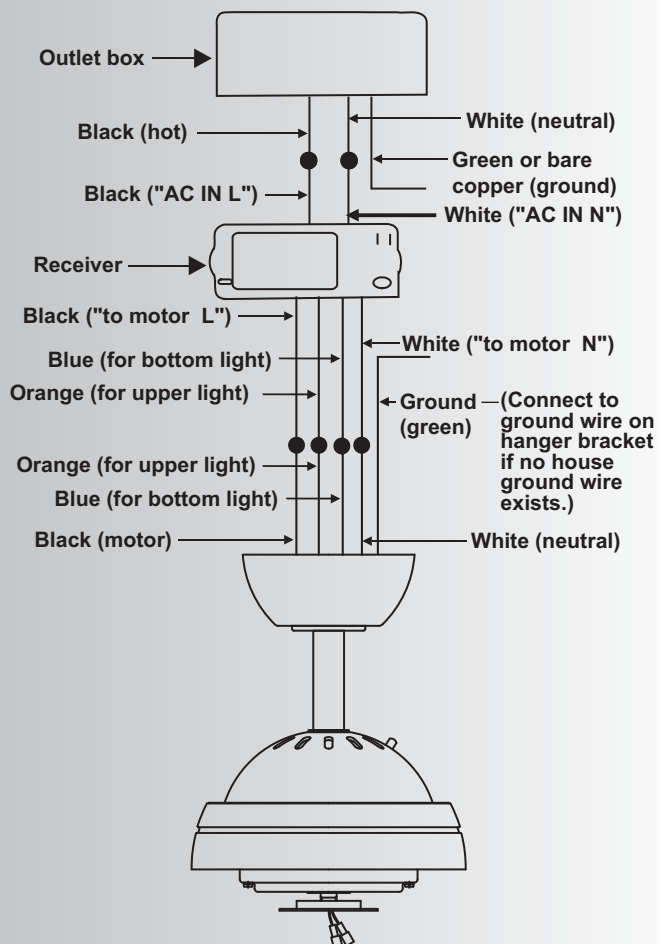

Fig. 15
Step 2. Motor to Receiver Electrical Connections: (Fig. 15) Connect the black wire from the fan to the black wire marked "TO MOTOR L" on the receiver.
Step 3. (Fig. 15) Receiver to House Supply Wires Electrical Connections: Connect the black (hot) wire from the ceiling to the black wire marked "AC in L" from the receiver. Connect the white (neutral) wire from the ceiling to the white wire marked "AC in N" from the Receiver. Secure the wire connections with the plastic wire nuts provided.
Step 4. (Fig. 15) If your outlet box has a ground wire (green or bare copper) connect it to the fan ground wires; otherwise connect the hanging bracket ground wire to the mounting bracket. Secure the wire connection with a plastic nut provided. After connecting the wires, spread them apart so that the green and white wires are on one side of the outlet box and black, orange and blue wires are on the other side. Carefully tuck the wire connections up into the outlet box.